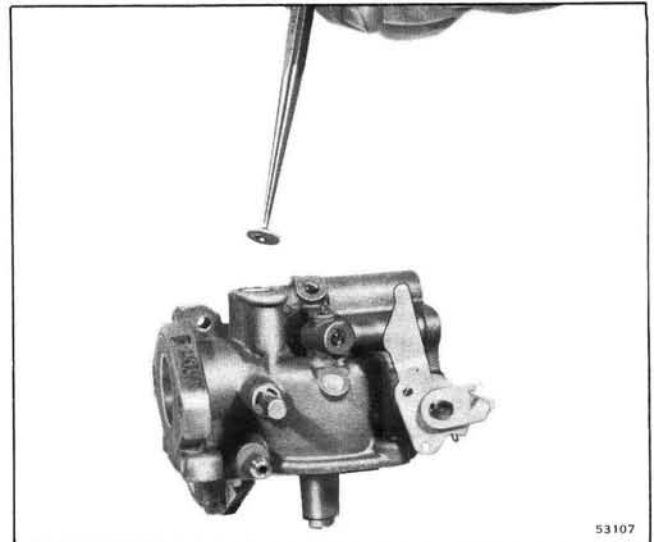

Figure 3-19. Removing Core Plug
c. If leakage persists, drill a 1/8 inch (3 mm) hole through the center of the core plug to a depth of not more than 1/16 inch (2 mm) below its surface. With a punch, carefully pry out the core plug. See Figure 3-19.